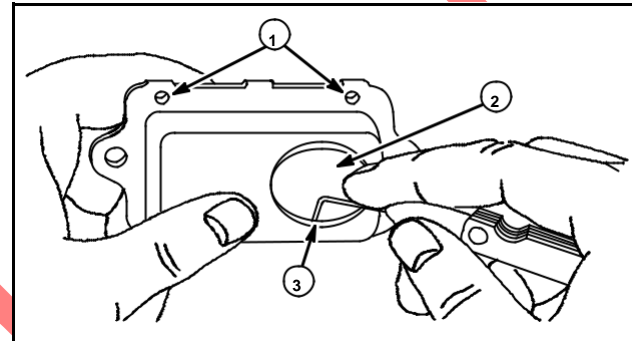

Fig. 5
If the fiber disc valve (2) is stuck or binding, the breather cannot function properly and must be replaced. Be sure the vent holes (1) are open. A .045" (1.14 mm) wire (3) should not enter the space between the fiber disc valve and body. (A wire spark plug gap gauge may be used.) Check as shown in Fig. 5.